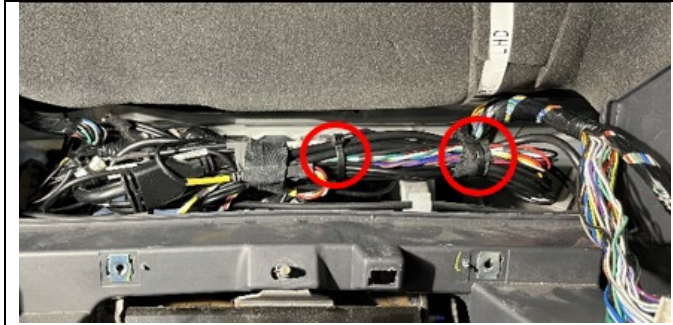

Figure 57
57. Cut the two (2) zip ties that are securing the Mobileye System harnesses behind the meter cluster. (See Figure 57.)